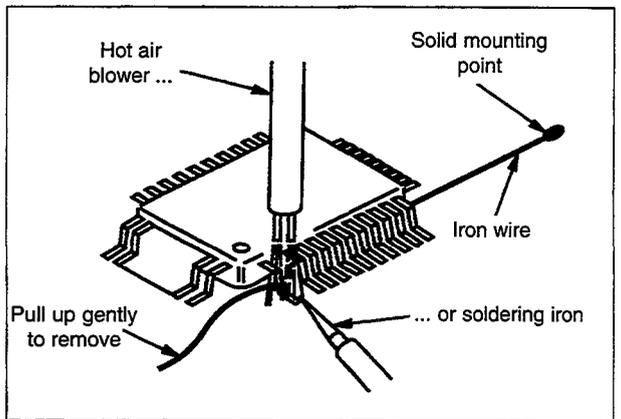

Fig. 2-8
- b. Affix the wire to workbench or solid mounting point (see Fig. 2-8)